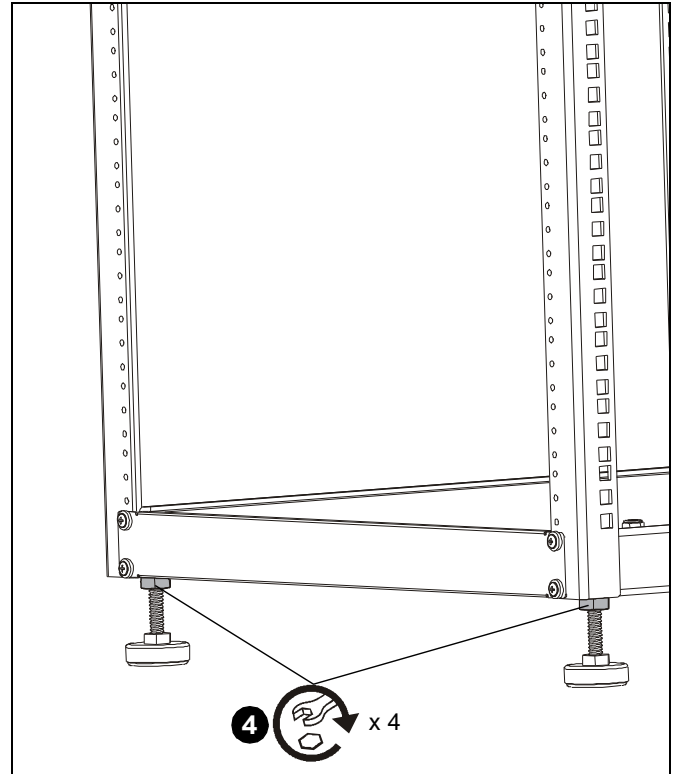

Figure 7
4. Tighten nuts on feet until they are flush with the bottom of the rack. (See Figure 7)